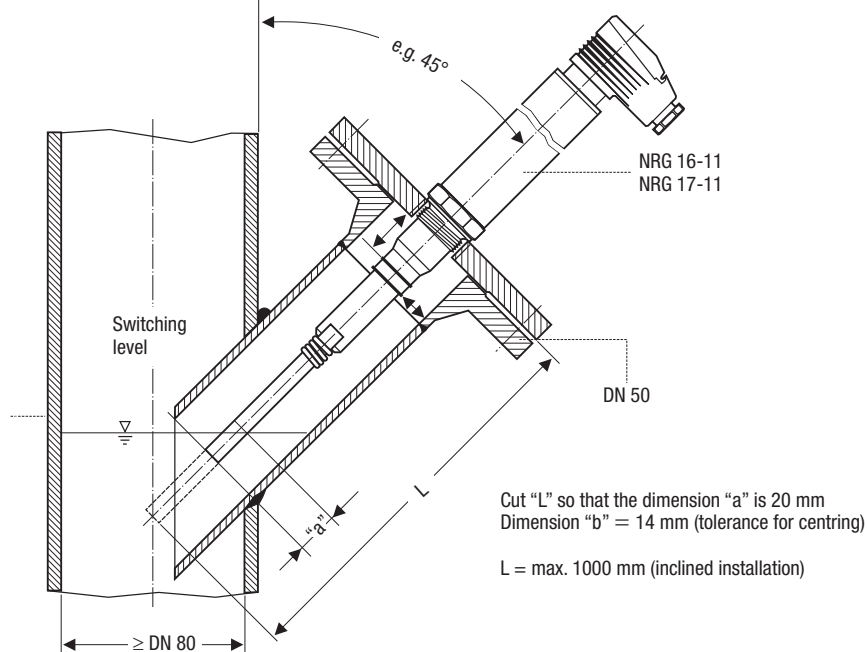

Fig. 3
- The inclination angle of the electrode must not exceed 45°. The max. length of the electrode rod is 1000 mm. **Fig. 3**